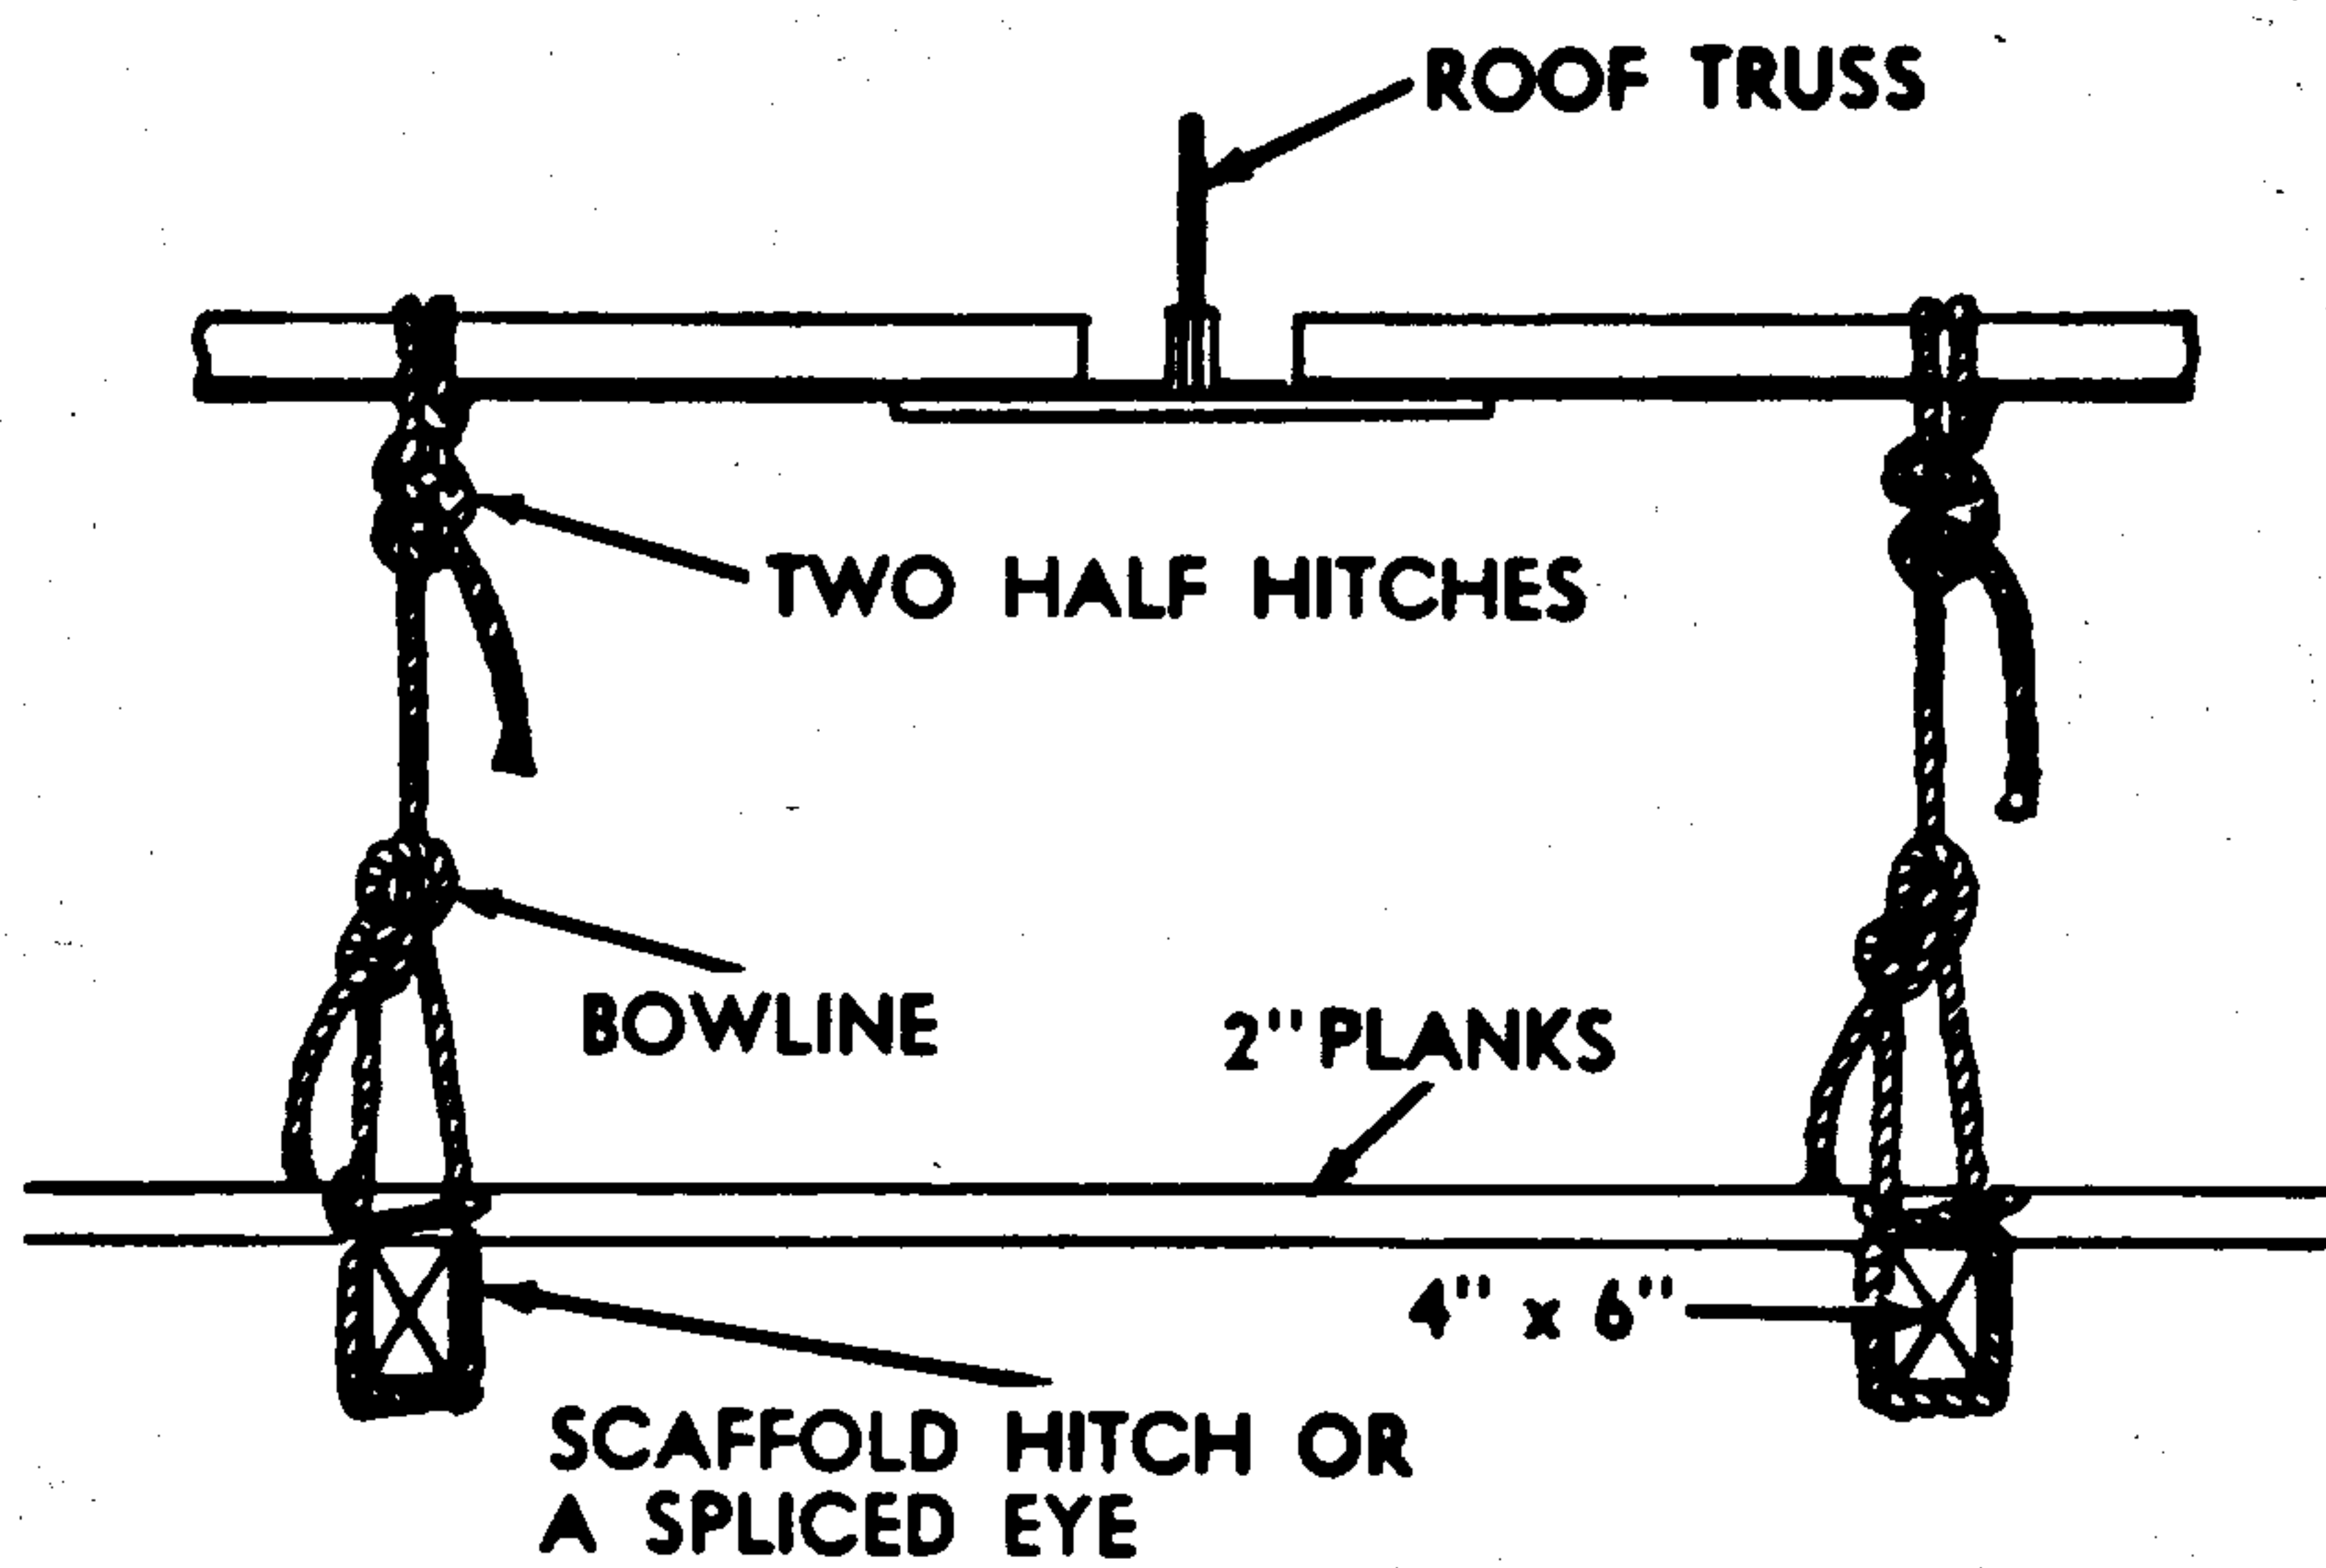

Figure 6-6. Needle beam scaffold.
c. Needle Beam Scaffold. This type of scaffold is used only for temporary jobs. No material should be stored on this scaffold. In needle beam scaffolding, two 4- x 6-inch, or similar size, timbers are suspended by ropes. A decking of 2-inch scaffold plank is placed across the needle beams, which should be placed about 10 feet apart. Needle beam scaffolding (fig. 6-6) is used frequently by riveting gangs working on steel structures because of the frequent changes of location necessary and its adaptability to different situations. A scaffold hitch is used in the rope supporting the needle beams to prevent them from rolling or turning over. The hanging lines are usually of 1¼-inch manila rope. The rope is hitched to the needle beam, carried up over a structural beam or other support, and then down again under the needle beam so the latter has a complete loop of rope under it. The rope is then passed over the support again and fastened around itself by two half hitches.